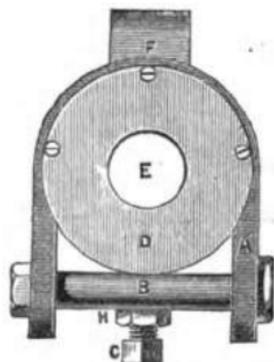

FIG. 13.—THE PREMIER BEARING CASE. FIG. 14.—THE PREMIER BEARING CASE (Sectional View.)
for some years. A double grooved collar is screwed on the axle (E); in this twelve balls work, kept apart by a collar (G); the top and bottom of the case (D) are grooved in a corresponding manner. Over the case there is a sort of holder (A) or fork (see Fig. 13). The lower ends project below the case, and are joined by a cross bolt (B), which is pierced in the centre to permit of a small screw (C) passing through and pressing against the bottom of the case; by slacken-
ing the lock nut (H) and screwing this up, the required adjustment is easily made. The balls work in two grooves in the axle (see Fig. 13) and are held in their places by a perforated collar (see Fig. 15). The bearings are knuckle-jointed by the lug (F) to the forks. They make a strong, reliable, and easy running bearing,